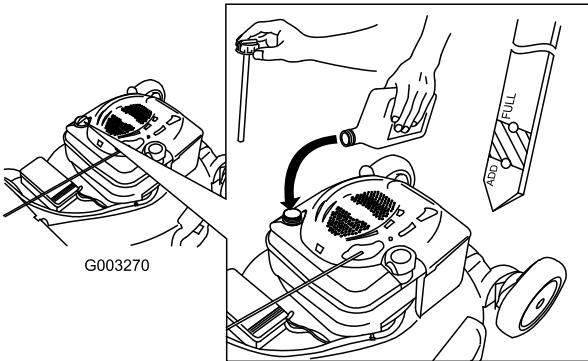

Figure 10
2. Remove the dipstick and check the oil level (Figure 10). If the oil level is below the Add mark on the dipstick, slowly pour oil into the oil fill tube to raise the oil level to the Full mark on the dipstick. **Do not overfill.** (Max. fill: 20 oz. (0.59 l), type: SAE 30 detergent oil with an API service classification of SF, SG, SH, SJ, SL, or higher.)
1. Remove the dipstick, wipe it clean, and fully install the dipstick (Figure 10).